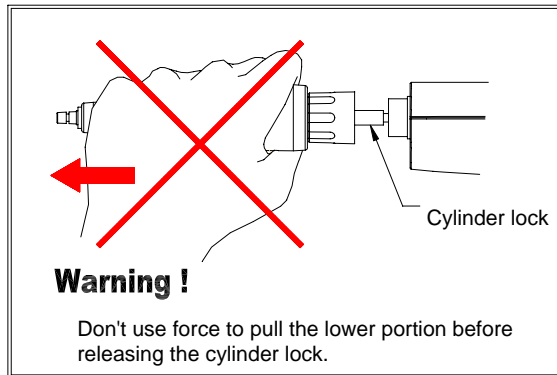
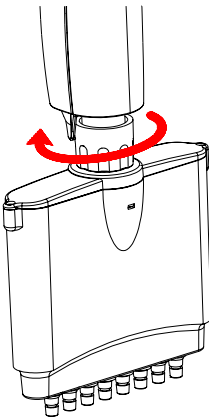

Figure 10: Incorrect removal of the lower piston assembly.
Figure 11: Loosen the connecting nut by unscrewing counter-clockwise.
Only the lower piston assembly of BioPette E can be steam-autoclaved (121°C, 1 bar, 20 minutes). **NOTE: It is important not to exceed the the temperature of 121C or 20 minute time during the autoclaving cycle. Autoclaving at a higher temperature or for longer period of time will damage the manifold and void the warranty.** The autoclaved parts must be allowed to dry completely at room temperature for at least 2 hours before reassembly. Users can follow Figures 11~14 to disassemble BioPette E. Please **“DO NOT”** use excessive force to pull down the lower part before releasing the cylinder lock as shown in Figure 10. This action will break the connection mechanism of the lower part, permanently damaging the instrument and will void the warranty.
2. Loosen the lower part of BioPette E by unscrewing the connecting nut in counter-clockwise direction as shown in Figure 11.